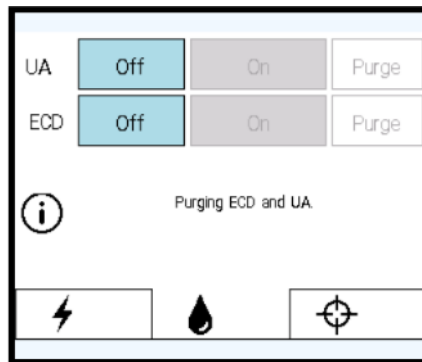
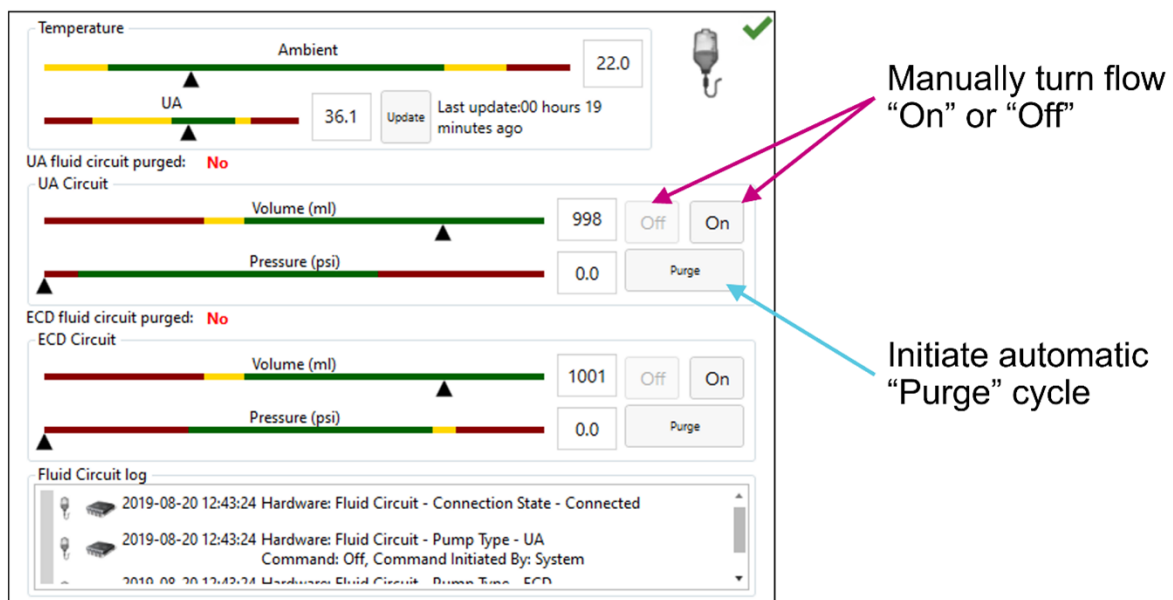

Figure 8: PSIB Display - Fluid Circuit tab
Figure 9: Fluid Circuit information box in TDC Setup workspace
4. On the PSIB display, choose the **Fluid Circuit** tab (*Figure 8*) and **Purge** the UA and ECD fluid circuits. You can also do this from the TDC by pressing **PURGE** beside the fluid circuit (FC) quadrant (*Figure 9*).
- a. If the purging cycle ends before completing the steps in this process, return to the PSIB display (or TDC window) and manually turn the flow on by clicking **On**. The fluid pumps will remain on until you click **Off** (Figure 9).